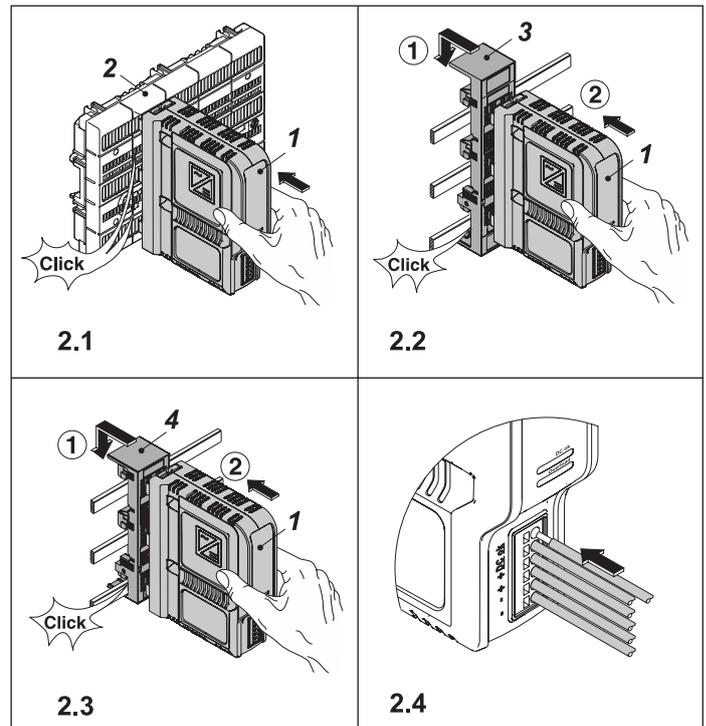

Figure 2
6.1. Mounting the power supply (Figure 2)